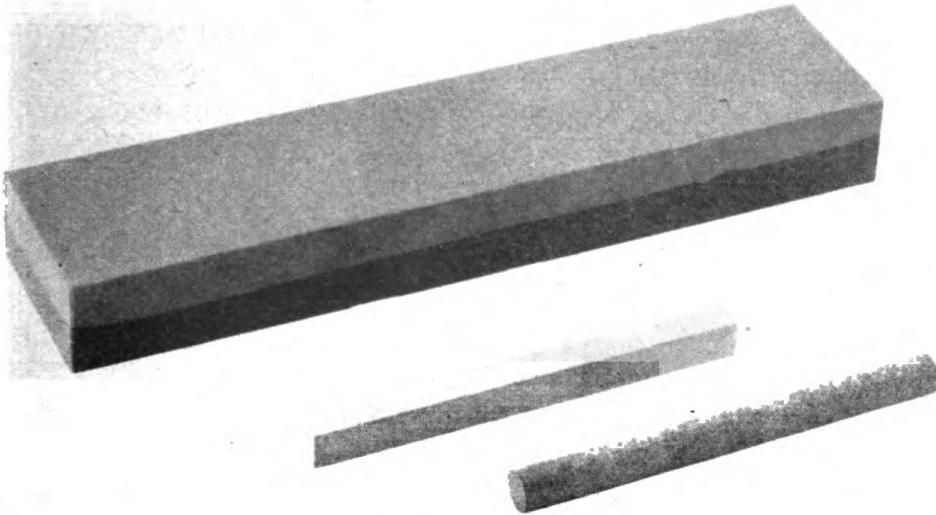

Figure 109. Sharpening stones.
k. SHARPENING STONE. (1) Sharpening stones are usually made of carborundum, varying in grade from coarse to very fine. They are usually rectangular in shape, but are available in almost any shape for special work. (See fig. 109.)